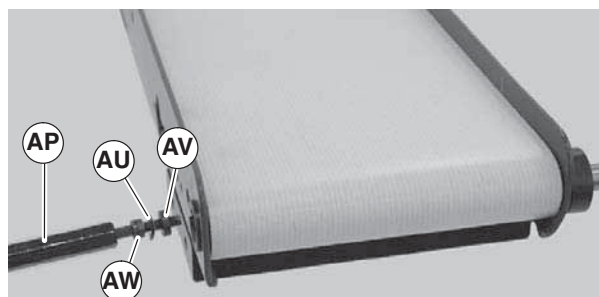

Figure 28
2. Place pulley screw (Figure 28, item AW), wave washer (AU) and flat washer (AV) onto small end of hex key wrench extension tool (Figure 28, item AP) (25–08).